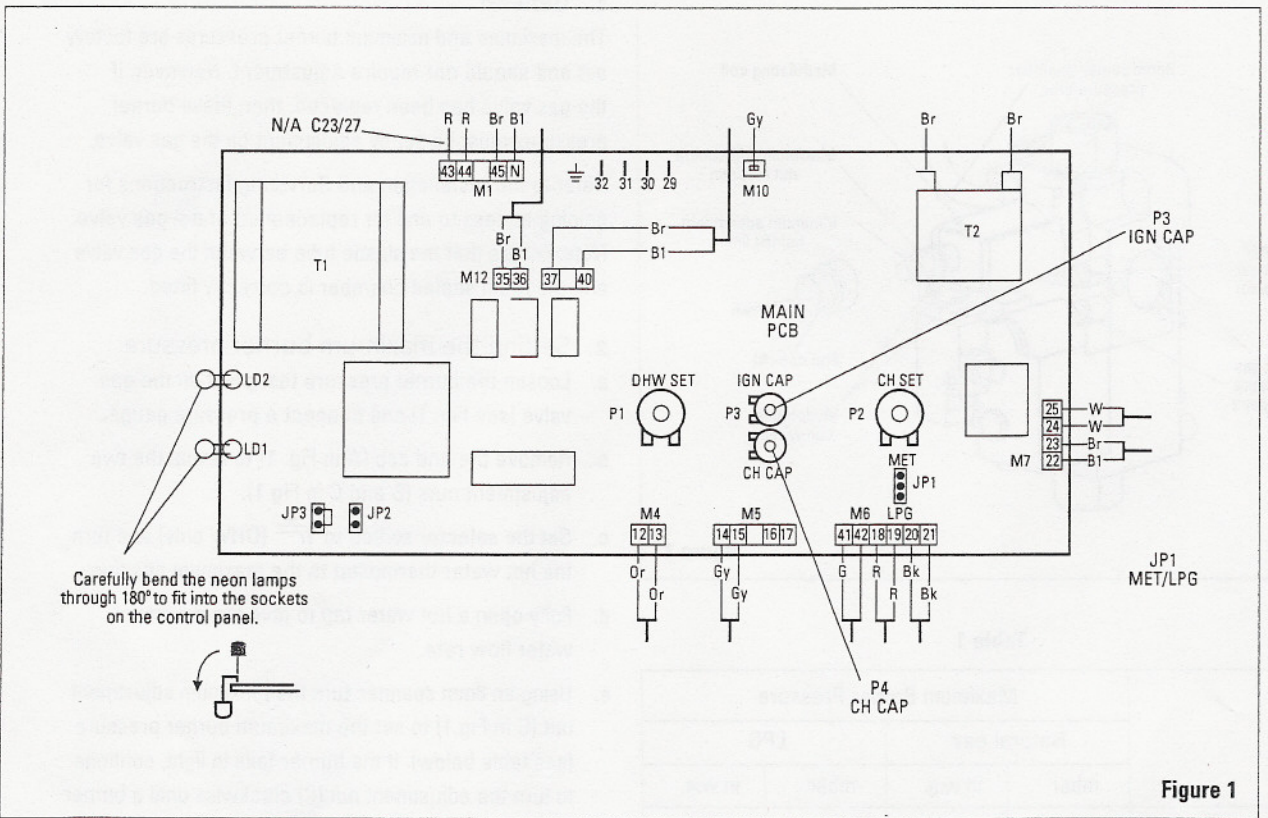

Figure 1
- Loosen the burner pressure test point on the gas valve (see Fig. 1) and connect a pressure gauge.
- Remove the end cap (A in Fig. 1) to reveal the two adjustment nuts (B and C in Fig 1).
- Using an 8mm spanner, turn the maximum adjustment nut (C in Fig.1) to set the maximum burner pressure (see table below). If the burner fails to light, continue to turn the adjustment nut (C) clockwise until a burner pressure is obtained. During this adjustment the selector switch may have to be turned to 'RESET'. If so, wait 30 seconds each time before resetting.
- Using a 5mm spanner, turn the minimum adjustment nut (B in Fig. 1) to set the minimum burner pressure (see table 1).
- Note:** It is advisable to hold the maximum adjustment nut (C) with an 8mm spanner, when adjusting the minimum nut (B).
**Note:** (i) Before fitting the PCB, carefully bend the red and yellow neons through 180° so that they locate into the control panel – see Fig. 1 or 2 on page 32.
- Carefully locate a small insulated screwdriver into the potentiometer P3 (IGN CAP) – see Fig. 1 or 2 on page 32.
- Carefully locate a small insulated screwdriver into the potentiometer P4 (CH CAP) – see Fig. 1 or 2, which should be fully clockwise.